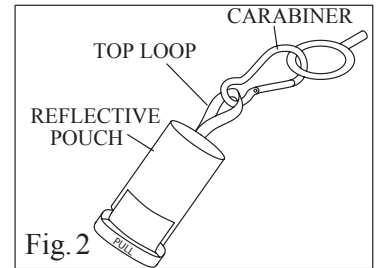
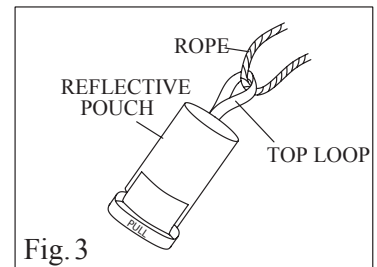

Fig. 2
Fig. 3
- NOTE: Alternatively, a carabiner (not included) may be attached to the TOP LOOP of the RESCUE STEPS™ and clipped to the side of the vessel (See FIG. 2) or the RESCUE STEPS™ may be tied with a rope (not included) (See FIG. 3) or attached by other methods. Regardless of the type attachment used, make sure the attachment point on the vessel can withstand the intended load.